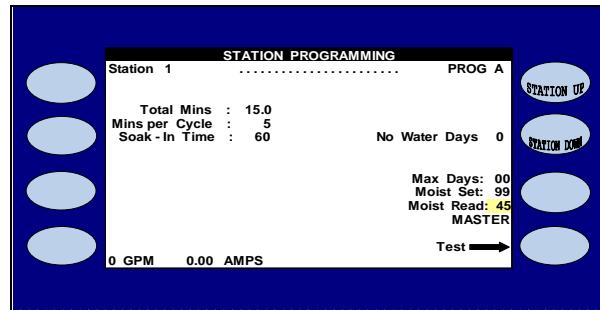

Figure 12
**MOIST READ:** This entry is non-changeable. The Calsense Moisture sensor is not an On / Off switch. It will never irrigate more than what is programmed on the controller. As a moisture sensor reading goes above the determined moisture set point, the controller irrigates less of the programmed time until it may not water at all. As the controller irrigates less, the moisture level reading drops below the moisture set point. Once this occurs, the controller automatically begins to irrigate more of the programmed time to where it may water the full programmed amount (Figure 12).